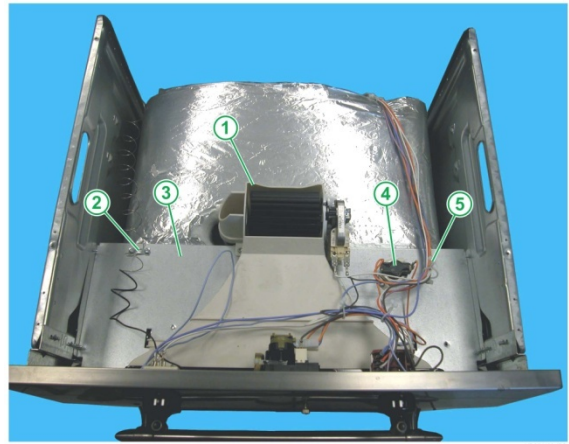

Fig. 3
5. Disconnect the connections to the motor (see Fig. 3 and 4).